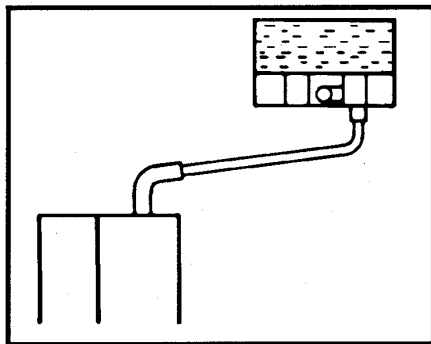

Figure 3-2
6. Connect the steam supply piping from the humidifier steam generator to the fan unit. We recommend 1-1/4" copper tube with insulation. Be sure the steam pipe **slopes upward toward the fan unit**, with a pitch of at least 1" per foot. Use the short pieces of hose **from the humidifier** to connect to the copper tube. (See Figure 3-2)